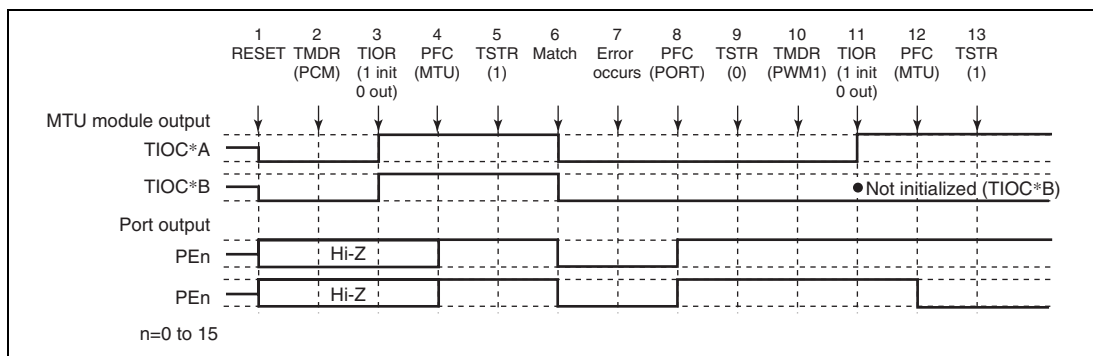

**Figure 11.102 Error Occurrence in Phase Counting Mode, Recovery in PWM Mode 1**
**Operation when Error Occurs during Phase Counting Mode Operation, and Operation is Restarted in PWM Mode 1:** Figure 11.102 shows an explanatory diagram of the case where an error occurs in phase counting mode and operation is restarted in PWM mode 1 after re-setting.